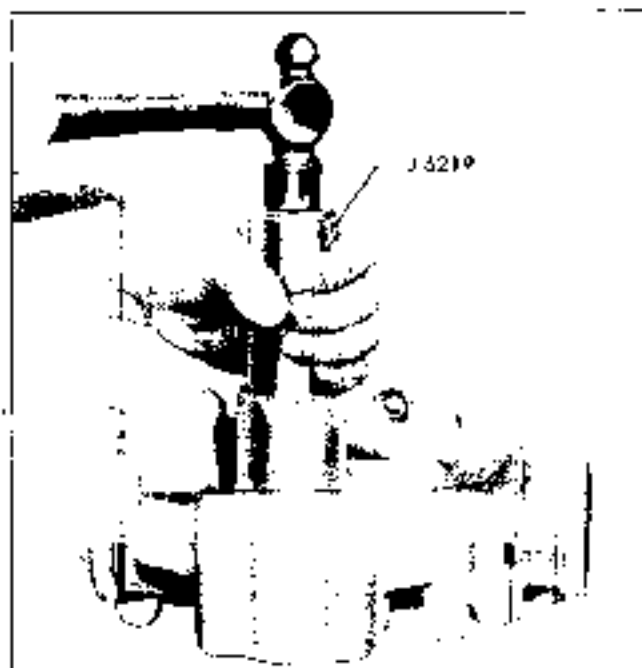

Fig. 9-62 Installing Pitman Shaft Seal Using J 6219
3. Lubricate and install pitman shaft seals; single lip seal, inner back-up washer, double lip seal, outer dust seal and retaining ring in housing bore (Fig. 9-61). Use tool J 6219 (Fig. 9-62) for seals and Truearc pliers for retaining ring. Make sure seal